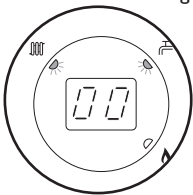

Fig. 80
6. The display will show '00', indicating maximum rate, then revert to 'P' alternating with the current boiler temperature (Figs. 80, 81 & 82).